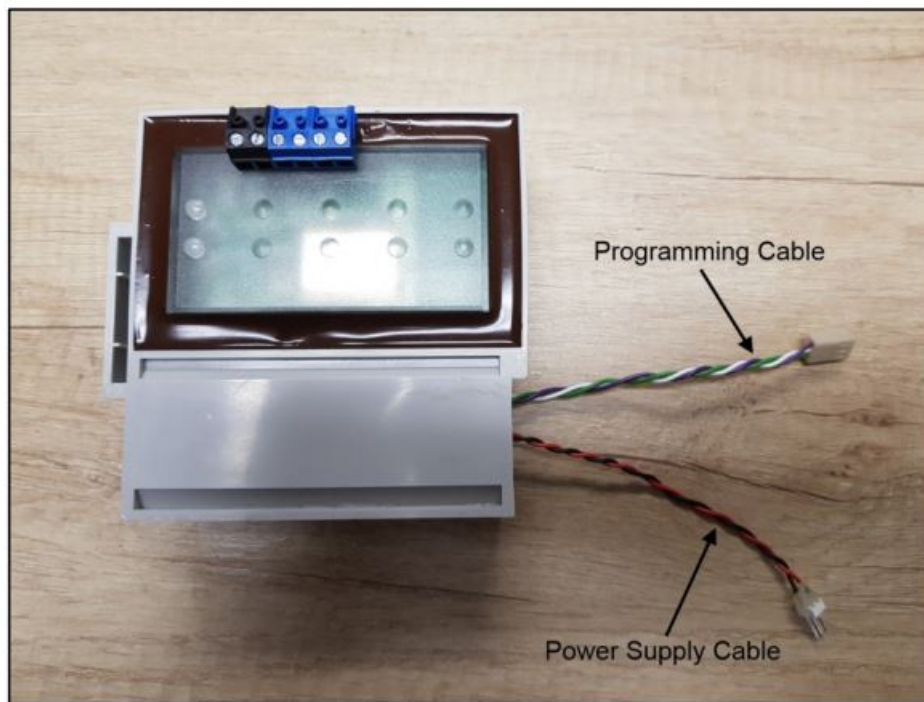

Figure 2: Programmer cables
- Referring to Figure 2 above, extract the battery, battery cable and the programming cable out of the receiver modules battery compartment.